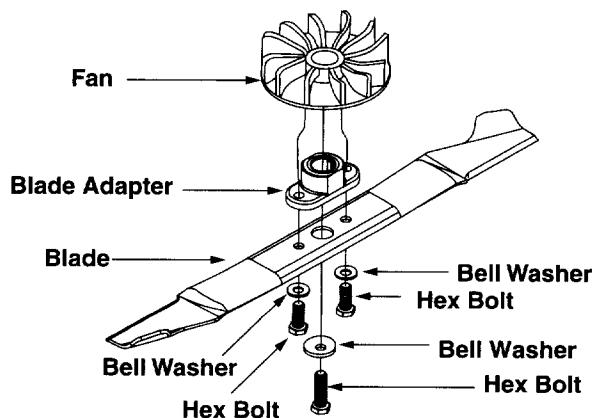

Figure 12
- Using a 9/16" box or open-end wrench, remove center bolt and bell washer which hold the fan, blade and adapter to the motor shaft. See figure 12.
- Remove the two small bolts, bell washers and nuts which hold the blade to the adapter. See figure 12. Remove fan from blade adapter.
- Assemble bolts, washers, and nuts in the exact order of removal. Make sure to assemble the fan properly before running the mower. See figure 12.
- When replacing the blade, be sure to install the blade with the side of the blade marked 'Bottom' (or with part number) facing the ground when the mower is in the operating position. Also make sure to follow the correct order as shown in figure 12.